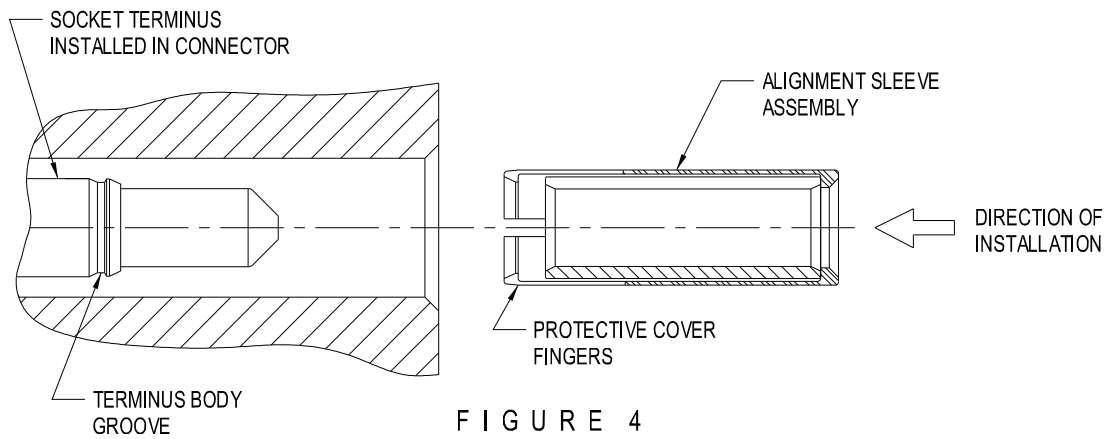

FIGURE 4
9.0 SOCKET TERMINUS ALIGNMENT SLEEVE AND PROTECTIVE COVER INSTALLATION, SEE FIGURES 4 AND 5